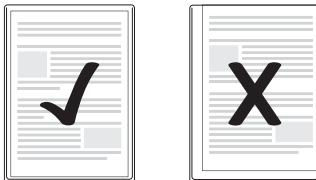

Fig. 1
- Ensure that all edges of the document have at least two millimetres of space to the edges of the laminating pouch, as shown in Fig. 1.
- Ensure that all edges of the document have at least two millimetres of space to the edges of the laminating pouch, as shown in Fig. 1 (see p. 36).